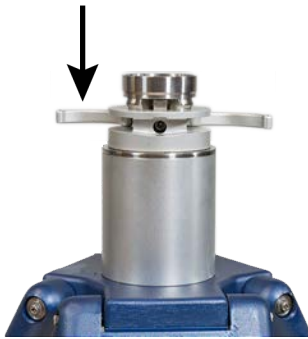

Figure 4-2 Tightening Side Lever
2. Pull out the lever out from the side of the mandrel as shown in Figure 4-2 Use the lever to tighten the mandrel onto the stand.